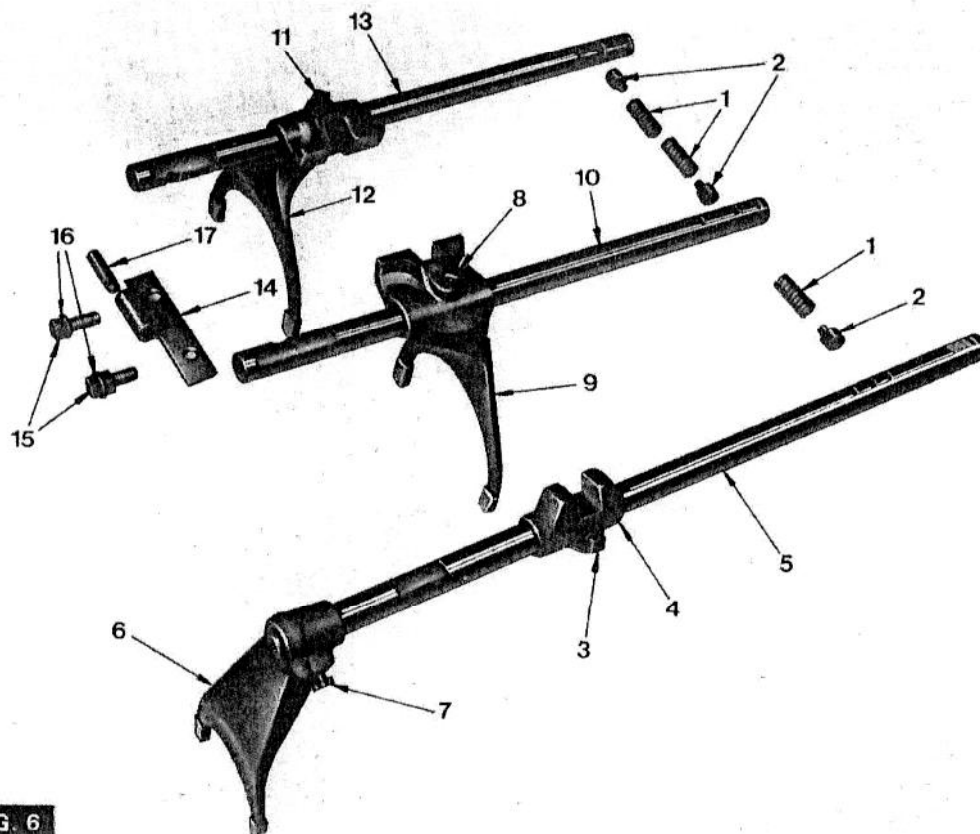

FIG. 6
1. (Fig. 6) Remove the locking wire from the 1st/Rev. shift rail (10), the 2nd/3rd shift rail (13), and from the rear end of the high/low shift rail (5).
2. Remove the locking peg (7) from the high/low shift fork (6), detach the fork and coupler (4).
3. Remove the gear lever stop plate (14) and interlock (17), by unscrewing the two bolts (16) and spring washers (15).
4. Lift out the three shift rail springs (1) and plungers (2).
5. Remove the locking pegs (8) (11) from the 1st/Rev. fork (9) and the 2nd/3rd fork (12).
6. Slide the 1st/Rev. shift rail (10) and the 2nd/3rd shift rail (13) rearwards out of the transmission housing. Lift out the 1st/Rev. shift fork (9) and the 2nd/3rd shift fork (12).
7. Release the locking wire and remove the locking peg (3) from the high/low shift selector (4).
8. Slide the high/low shift rail (5) rearwards out of the transmission housing then lift out the high/low shift selector (4).